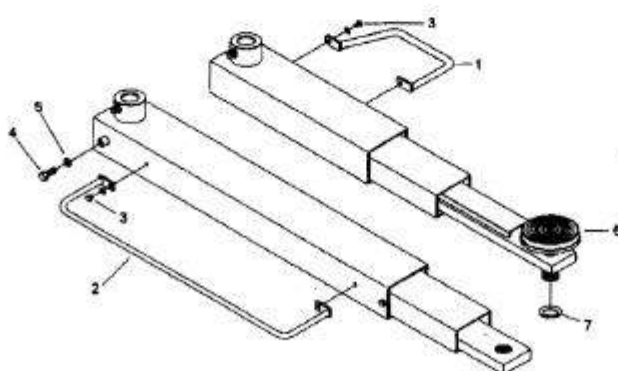

Fig.43
8. Fit the foot guards (1 and 2, Fig.43) to the arms with the screws (3).
- 9 Adjust the extension of the arms using screws (4, fig. 43), then lock them with the relevant nuts (5).
10. Screw the disk support plates (6) onto the end of the arms, then secure with circlips (7).